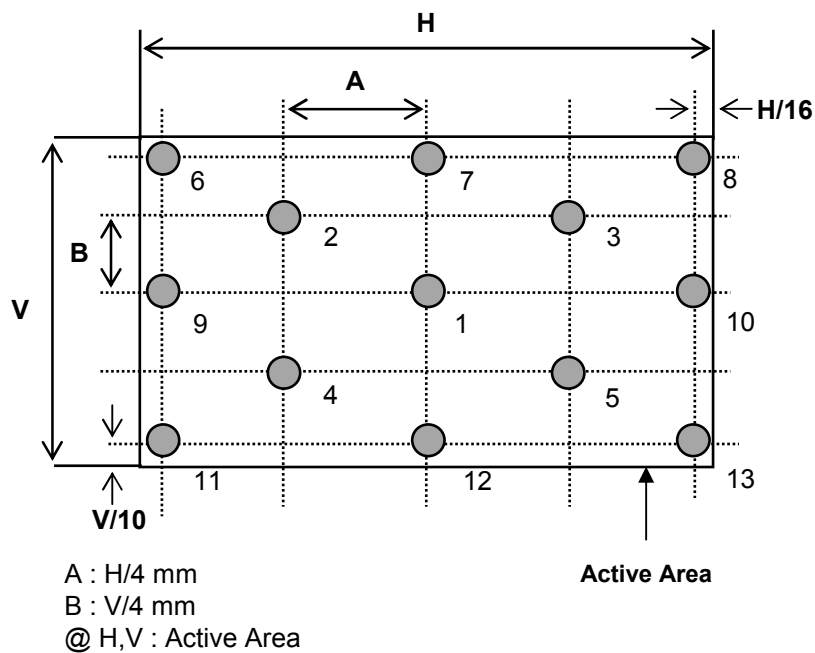

FIG. 2 Measure Point for Luminance
2. **Surface luminance** is luminance value at 5 points average across the LCD surface 50cm from the surface with all pixels displaying white. For more information see FIG 2.